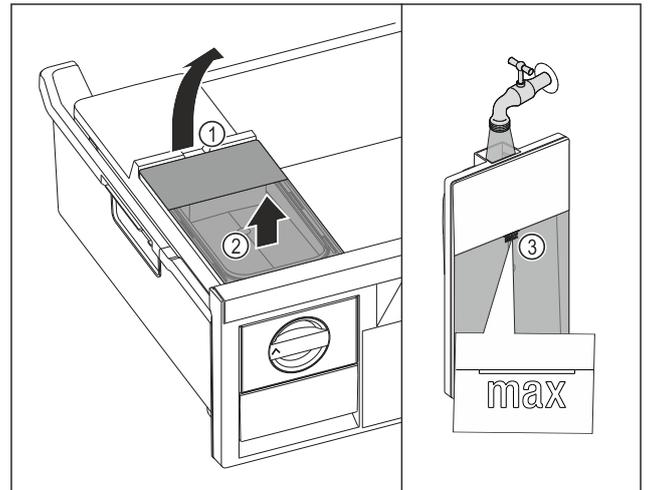

Fig. 156
- ▶ Lift the water tank at the recess Fig. 156 (1).
- ▶ Remove the water tank by lifting it upward. Fig. 156 (2)
- ▶ Fill the water tank with drinking water up to the mark Fig. 156 (3).